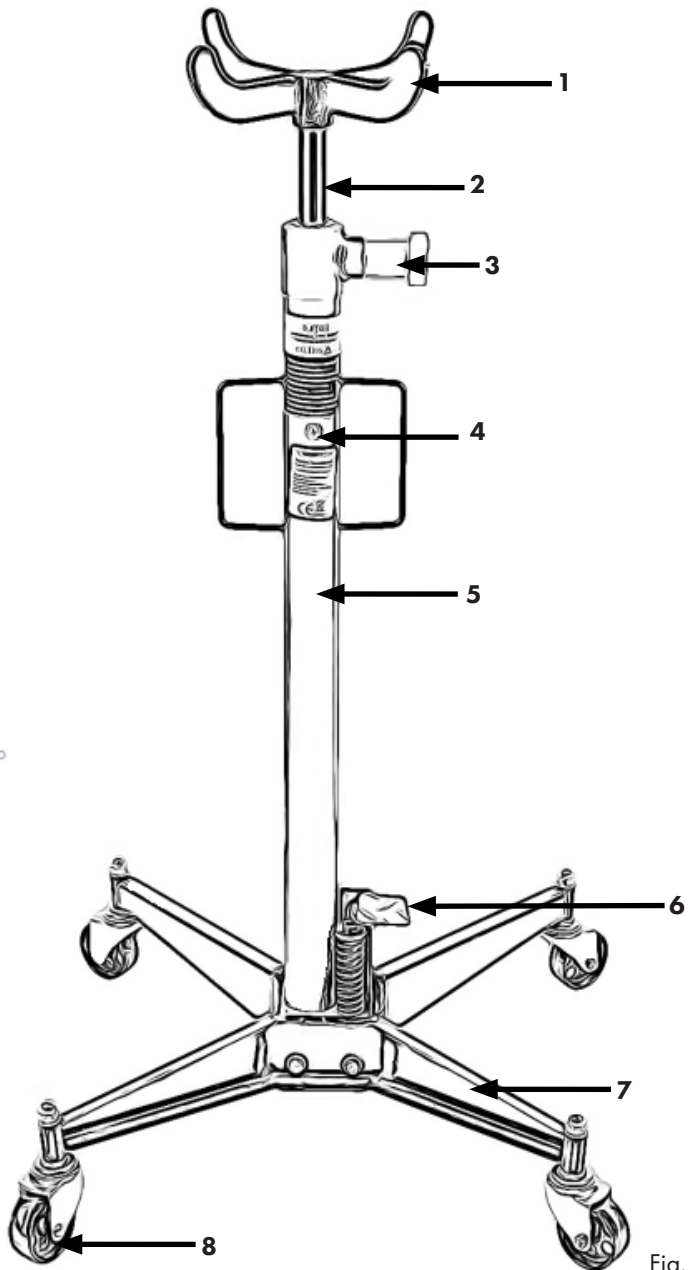

Fig. 1
Legend Figure 1
4. Place the basket on the end of the shaft. Loosen the screw on the oil filler opening (Figure 1) and press the pump pedal several times to allow any air to escape from the hydraulic system. Then retighten the screw on the oil filler opening.